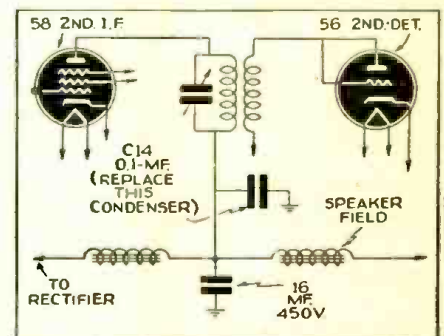

Fig. 2. Airline 62-106; replace shorted 0.1-mf. condenser with one rated at 600 W.V.
**Airline 62-106, 62-107, 62-121.** Where a condition of very low or no D.C. voltage at all exists at the tube socket terminals, check for a shorted 0.1-mf. tubular bypass unit connected from the plate supply lug of the 3rd I.F. transformer to ground. This condenser is rated at 400 volts and is really connected in parallel with the first filter condenser (16 mf.) at which point the voltage surge exceeds 400 volts each time the set is turned on. Be sure to use a 600-volt replacement. See Fig. 2.